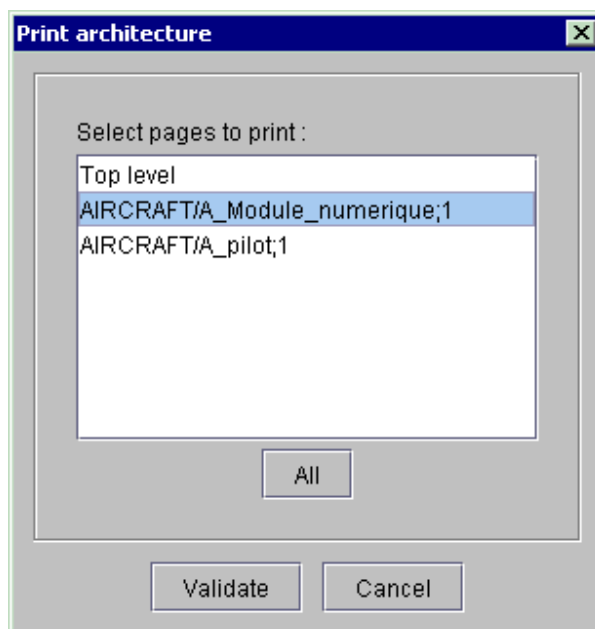

Figure 160 : Print architecture window
- Select the **File – Print** menu or click on the  icon to print selected system. When printing architecture (Figure 160), select the pages to be printed.